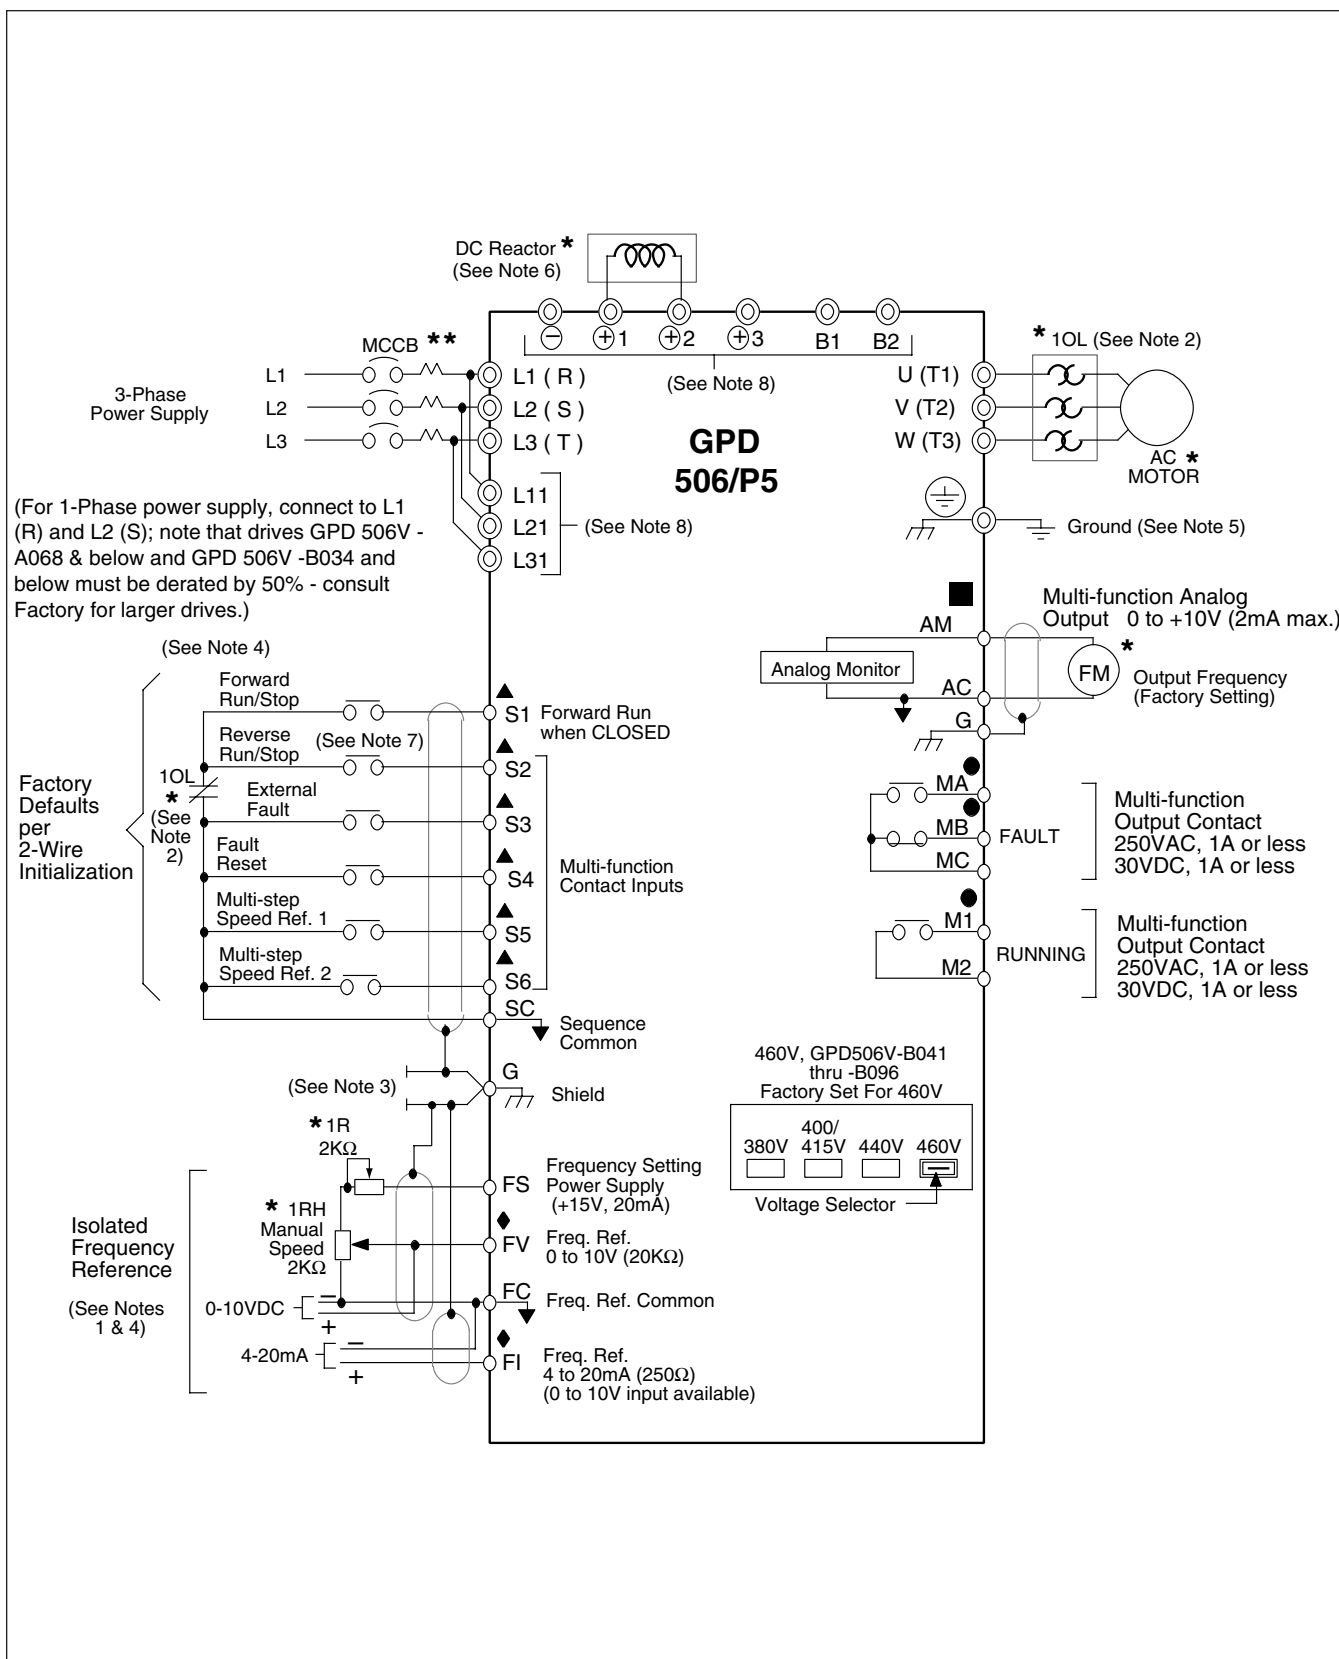

**Figure 1-3. 230V or 460V Interconnections - 2-Wire Control (n001 = 8)
- Interconnections for external two-wire control in combination with the Digital Operator are shown in Figure 1-3.
Make wire connections according to Figures 1-3, 1-4 and Table 1-3; observe the following:
NOTES FOR FIGURE 1-3